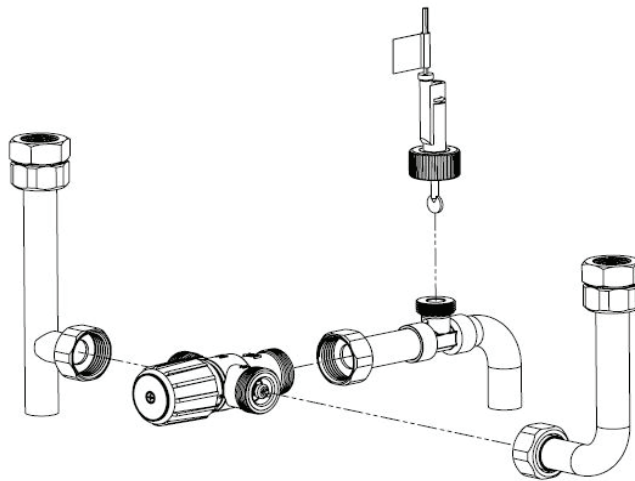

Figure C.3: DHW Assembly Diagram
(See Figure C.3) Install copper elbow hot water inlet pipe (smallest pipe) to mixing valve. Shortest side should attach to side connection marked “H” on mixing valve. Hand-tighten. Ensure gaskets from kit are properly installed.
5. Install short pipe to mix end of mixing valve. Install flow switch to mixed water outlet pipe. Ensure mixed outlet pipe is installed horizontally from mixing valve and install flow switch as shown in Figure C.3. Flow direction arrow must point away from mixing valve.